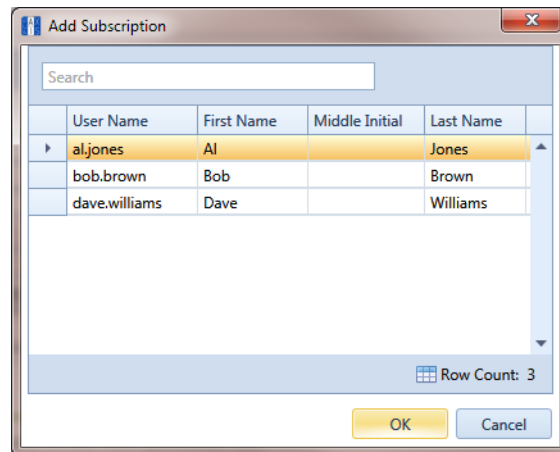

Figure 15-5. Add Subscription
- 2 Click  **Add** to open the *Add Subscription* dialog box (Figure 15-5, page 597).